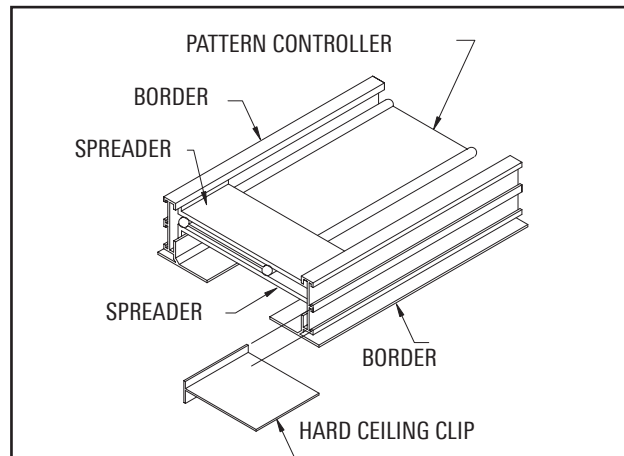

Figure 2. Installation of Hard Ceiling Clips
- Slide the Hard Ceiling Clips into the lower bosses of each frame rail as shown in Figure 2.